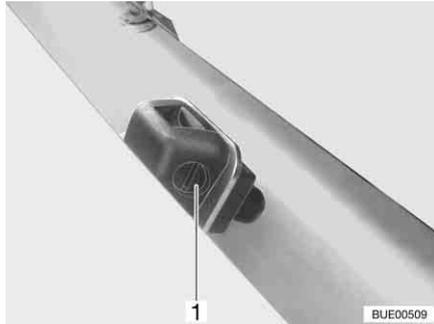

Fig. 41 Washer nozzle
- Use a suitable screwdriver to turn the adjusting screw (Fig. 41,1) until you reach the desired position.